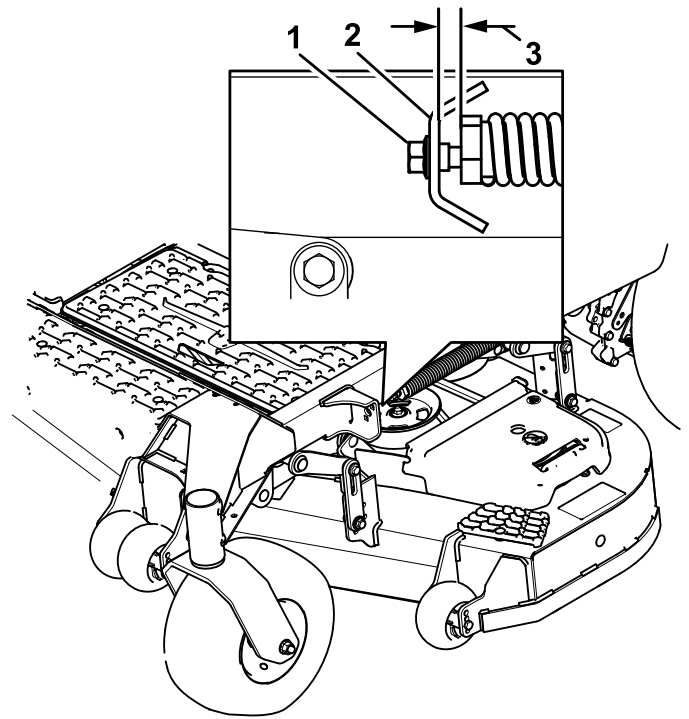

Figure 108
- Slowly loosen the adjusting screw on the lift-assist spring until you can remove the screw (Figure 108).